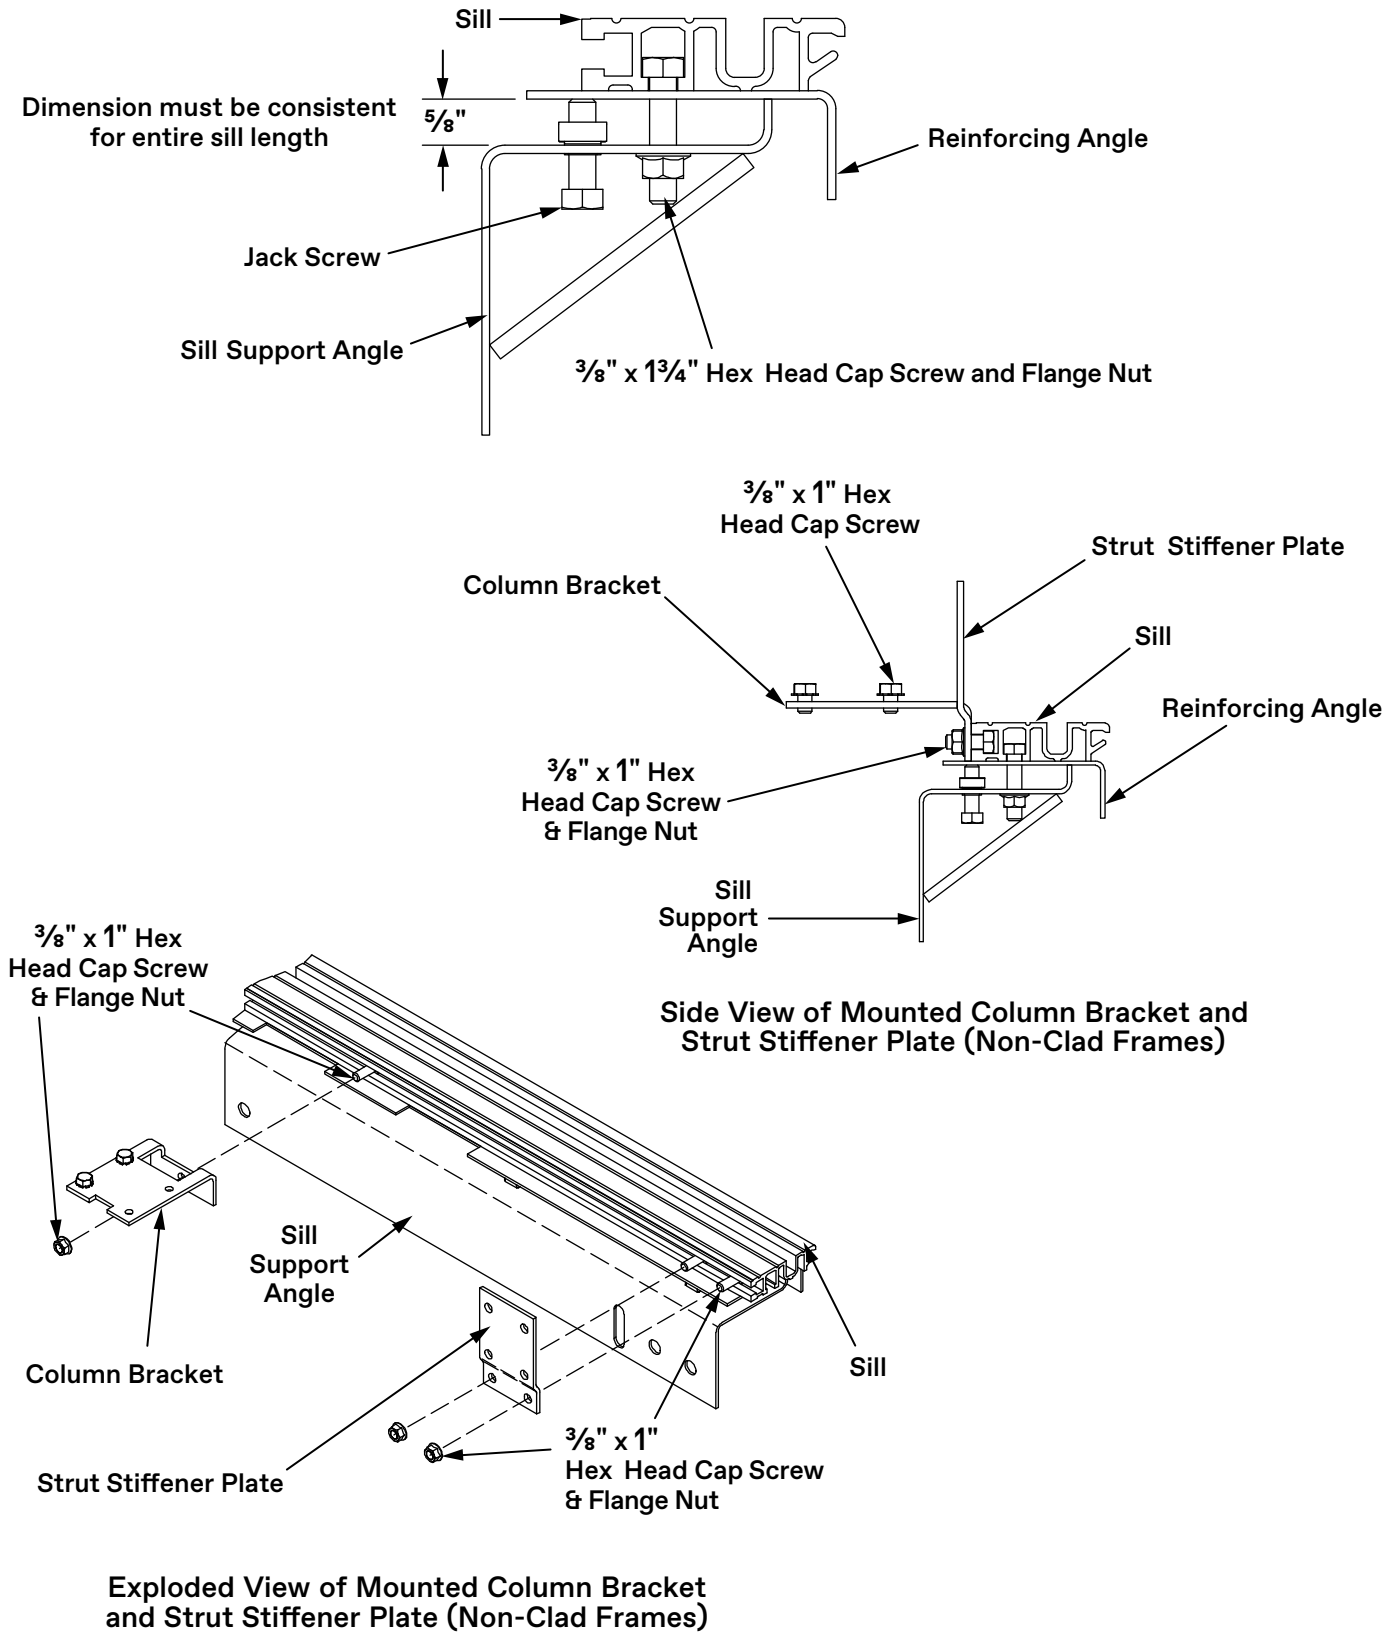

Figure 37 - Sill Installation (2 of 2)
7. With the jack bolts, adjust the space between the sill support angle and the reinforcing angle to a uniform $\frac{5}{8}$ " along the length of the sill. See Figure 37 on page 54.